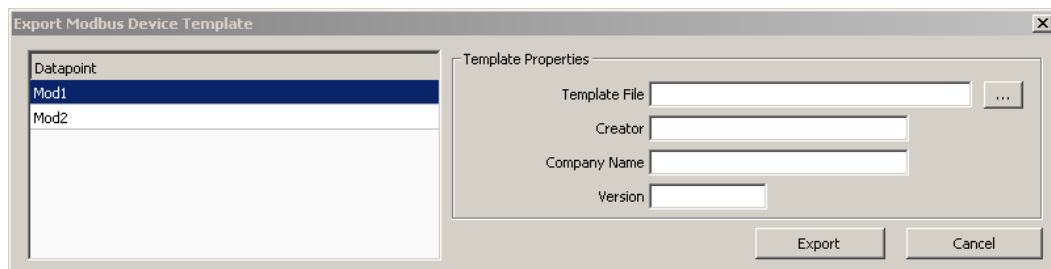

Figure 137 Export Modbus Device Template dialog.
- Press the **Export Device Templ.** button. This opens the **Export Modbus Device Template** dialog shown in Figure 137. The list on the left side of the dialog shows the names of the data points which are exported to the template.
- This opens the **Export Modbus Device Template** dialog as shown in Figure 137. Proceed as described above.